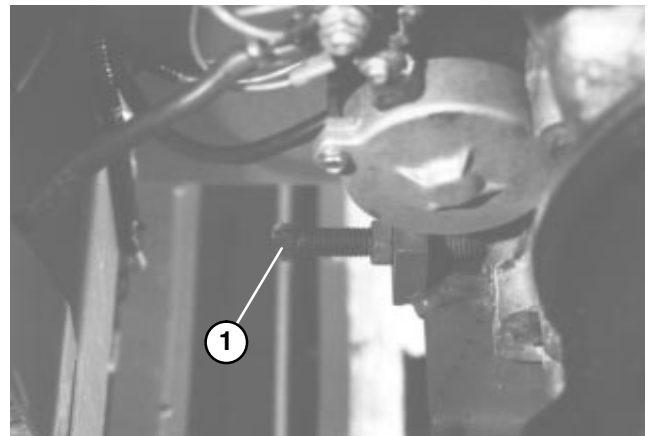

Figure 38
B. Turn belt adjusting (Fig. 38) bolt until desired belt tension is obtained. Retighten engine mounting bolts. Reorient engine to make sure engine is parallel with frame. Retighten engine mounting bolts.